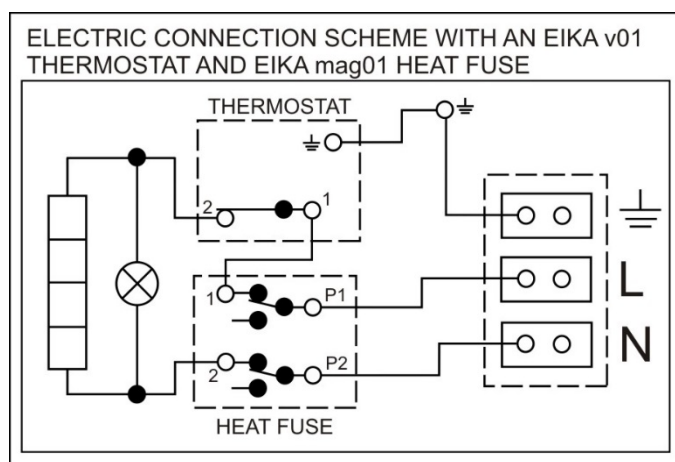

Figure 8
Perform the connection according to the scheme. Factory connection must not be changed! (Figure 8). The degree of protection of electric parts of the heater is IP 44. Power input of electric element is 2000W (OKHE ONE 50-120), 1100W (OKHE ONE 30).
- The electric wiring scheme is attached to the water heater on the side of the electric installation guard (Figure 8)